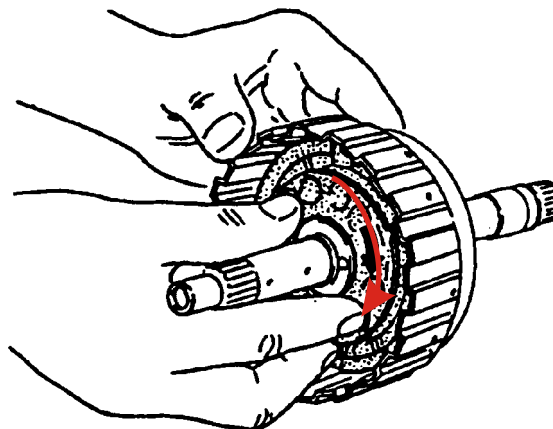

Figure 3
**CORRECTION:** NO. (1) - Remove the outer lip seal from the direct clutch piston and install the piston back into the direct drum with only the "D" ring in the piston. Rotate the piston and check the "D" ring for "Drag", as shown in Figure 3. "D" ring wear and/or shrinkage is what normally creates this complaint, and simply replacing the "D" ring solves the problem.